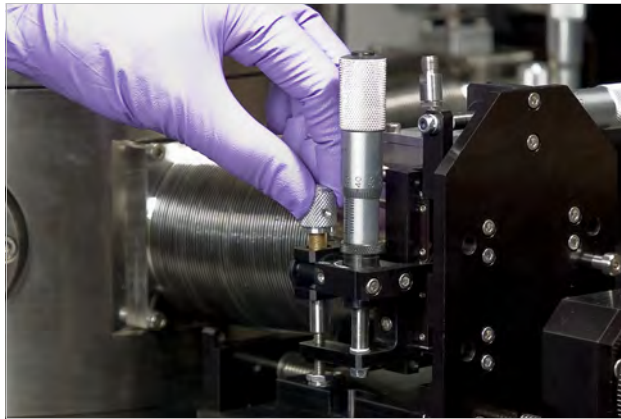

FIGURE 4-15 Turn the differential knob to adjust the angle
4. While observing the probe tip through the microscope, turn the differential knob to adjust the angle, as shown in FIGURE 4-15, visually noting the three points' alignment to the x-y plane.